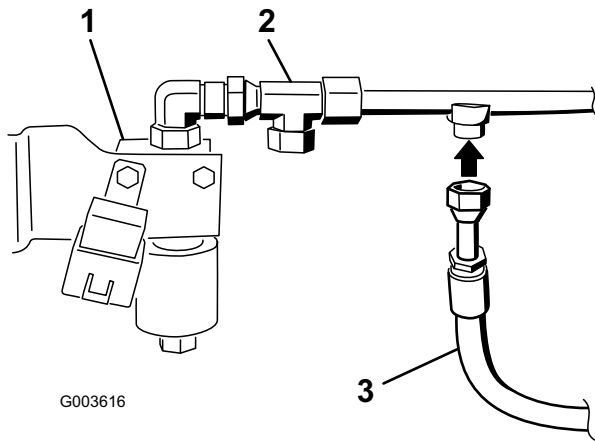

Figure 28
6. Install the hydraulic hose with fittings to the tee adapter installed on top of the valve (Figure 28).